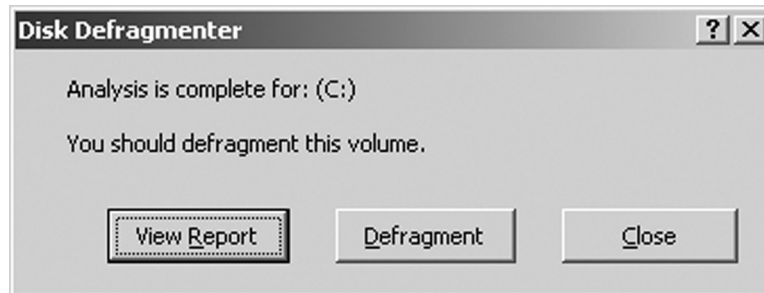

Figure 7-11: Analysis completed
7. The computer will now analyze the fragmentation of the hard disk drive. A message box will appear when the analysis is complete, with a recommendation as to whether the volume should be defragmented (Figure 7-11).